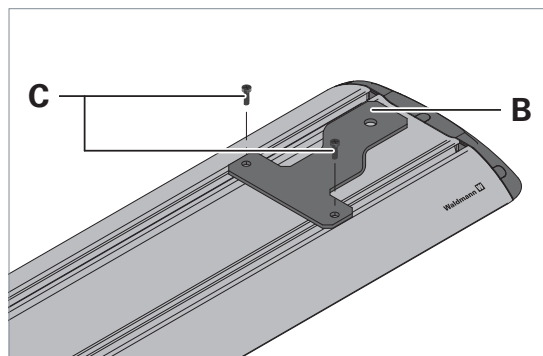
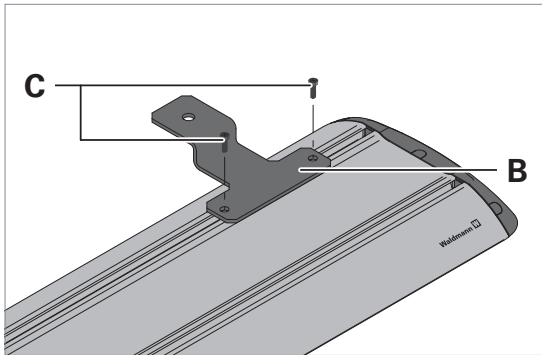

Fig. 6: Mounting the bracket for mounting type "Top, fixed"; 1st option.
Fig. 7: Mounting the bracket for mounting type "Top, fixed", 2nd option.
- ▶ Mount the two enclosed brackets **B** on the luminaire using the enclosed screws **C** and the slide nuts and tighten the screws, see Fig. 6 or see Fig. 7.